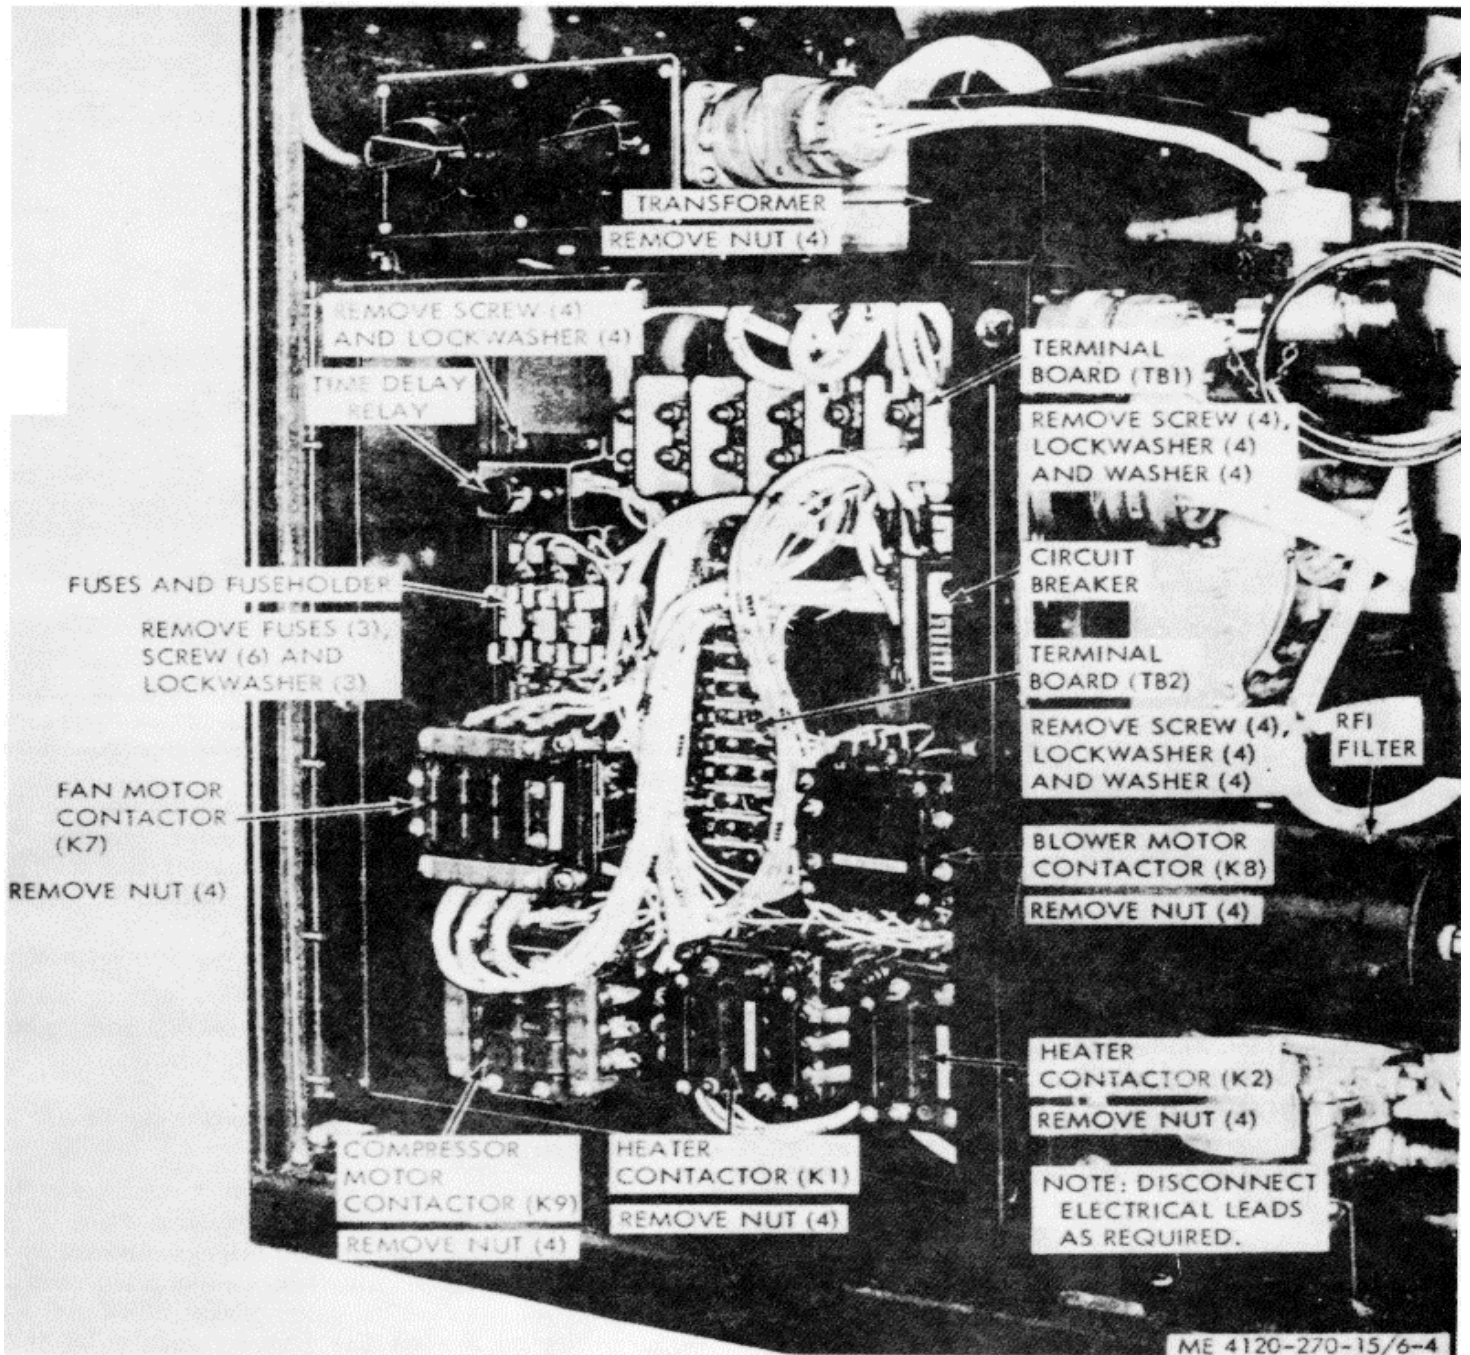

Figure 6-4. Junction box components, removal and installation
*b. Removal.* Refer to figure 6-4 and remove the circuit breaker from the junction box.
b. *Removal.* Refer to figure 6-4 and remove contactors from the junction box.
f. *Installation.* Refer to figure 6-4 and install contactors in junction box.
b. *Removal.* Refer to figure 6-4 and remove the time delay relay assembly from the junction box.
f. *Installation.* Refer to figure 6-4 and install transformer in the junction box.
b. *Removal.* Refer to figure 6-4 and remove the RFI filter assembly from the side of the junction box.
f. *Installation.* Refer to figure 6-4 and install RFI filter assembly in junction box.